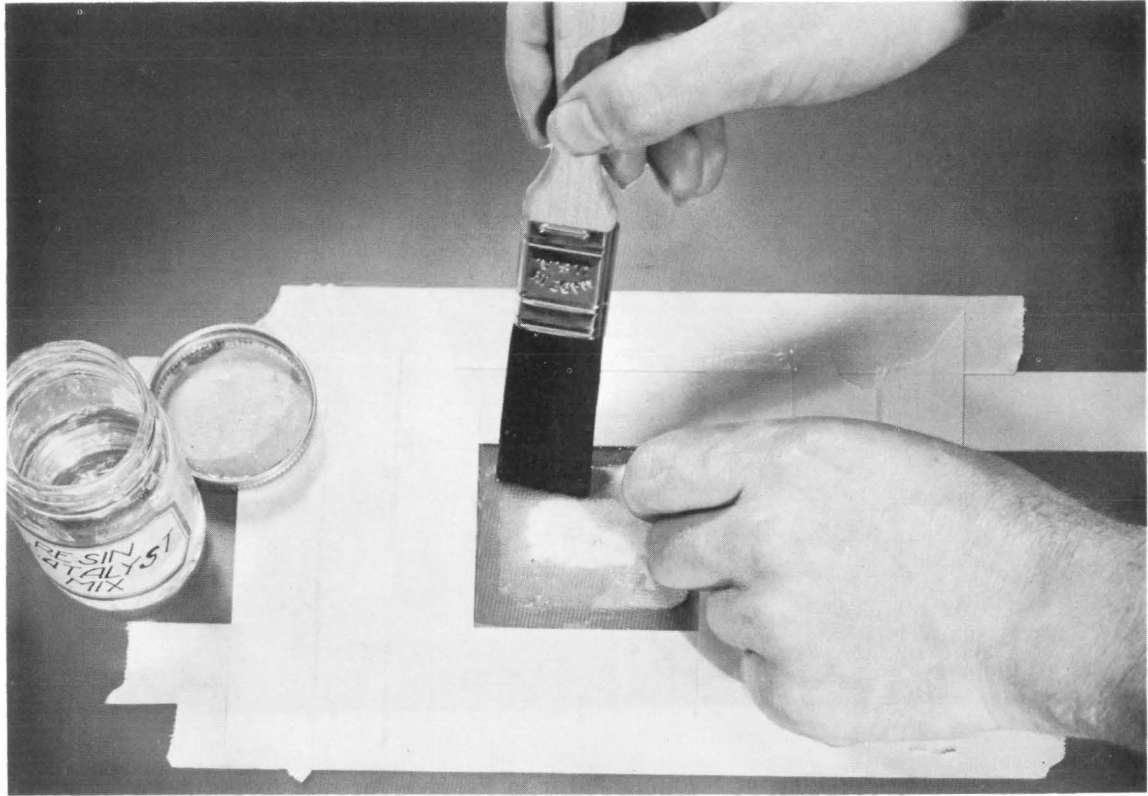

Fig. 15—Wetting Out Glass Cloth Patch
5.09 Apply the resin mix to the abraded area. Apply the patch and brush the patch with additional resin. (See Fig. 15.)